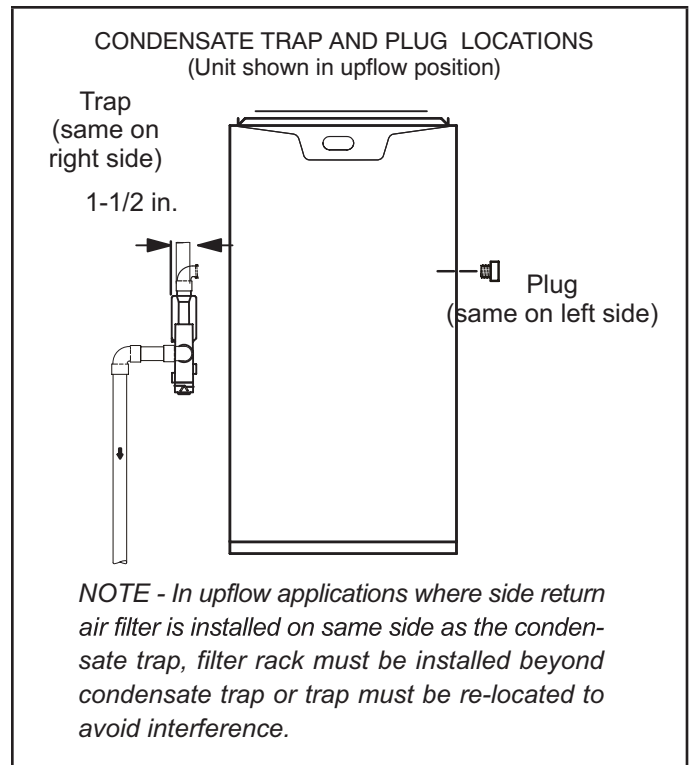
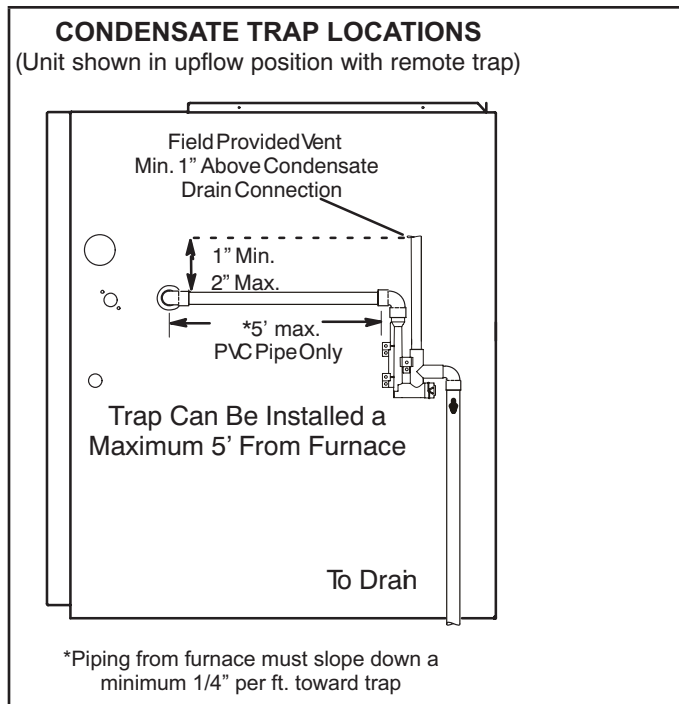
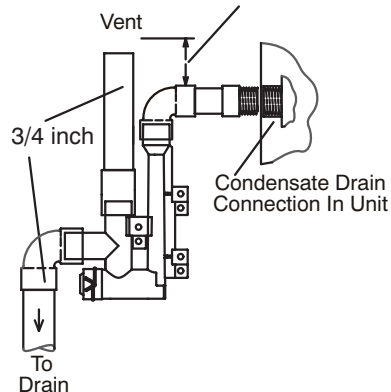

FIGURE 34
FIGURE 36
FIGURE 42
This unit is designed for either right- or left-side exit of condensate piping in upflow applications. In horizontal applications, the condensate trap must extend below the unit. An 8" service clearance is required for the condensate trap. Refer to FIGURE 34 and FIGURE 36 for condensate trap locations. FIGURE 42 shows trap assembly using 1/2" PVC or 3/4" PVC.
- 3 - Install the cap over the clean out opening at the base of the trap. Secure with clamp. See FIGURE 42.
- 4 - Install drain trap using appropriate PVC fittings, glue all joints. Glue the provided drain trap as shown in FIGURE 42. Route the condensate line to an open drain. Condensate line must maintain a 1/4" downward slope from the furnace to the drain.